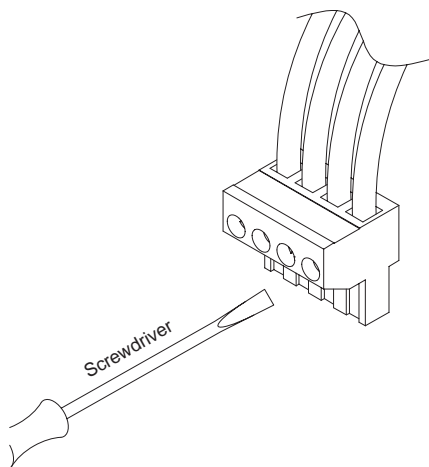

Figure 7: Tighten with Screwdriver
Step 3: Attach Wiring to the Terminal Connector (Figure 7)